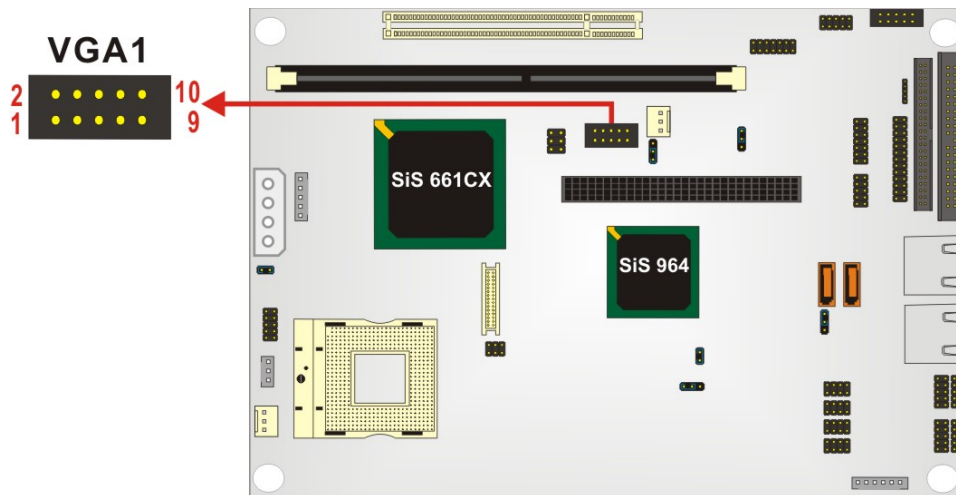

Figure 3-5: CRT Connector Location
- CN Location:** See Figure 3-5